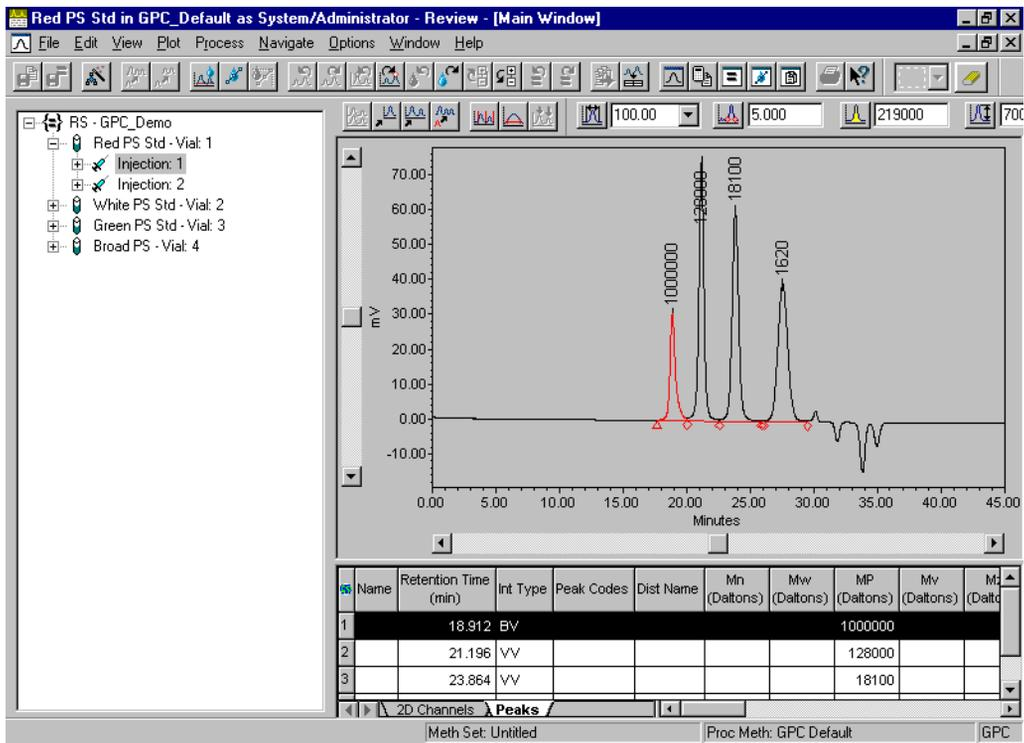

Figure 4-5 First Processed Injection in Review
11. Click **Review Main Window**, if it is not already displayed. The first processed injection appears in the Review Main window (Figure 4-5).